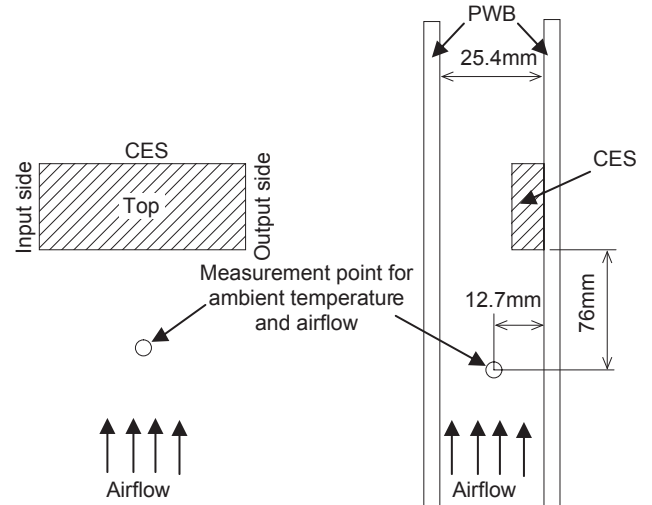

Fig.8.3 Measuring method
■Shown the thermal curve with measuring as shown in Fig.8.3.